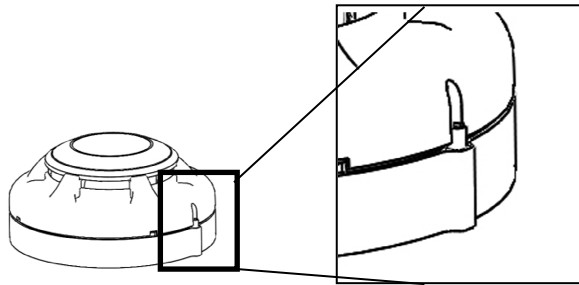

Figure 11: Position of the locking screw to lock the detector
3. Install the detector into the mounting base, making sure the wiring does not obstruct mounting of the detector head. Push the detector into the mounting base while turning it clockwise until the detector locks into place. Use a small hexagonal wrench to set the tamper resist feature (if required), see Figure 11.
The VDOT-UB series, VDOT-S6 Base, and VDOT-STB series of smoke/heat detector mounting bases have a tamper-resist feature that works in conjunction with the detectors. When this feature is enabled, the detectors cannot be removed from the base without the use of a small hexagonal wrench. To avoid unauthorized removal of the detector, turn the locking screw in the mounting base counterclockwise until the screw extends out about 4 mm (3/16 in.) from the rim of the base, as shown in the Figure 11.